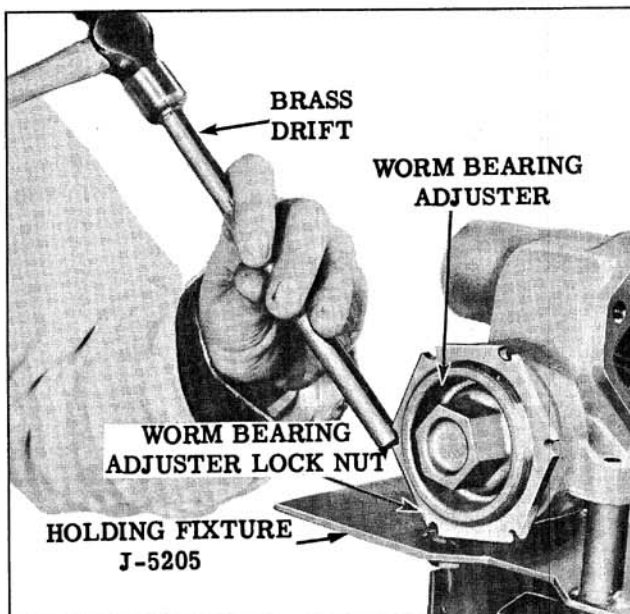

Fig. 8-9 Loosening Lock Nut
- The torque required should be between 4 and 7 inch pounds. If it is not, it will be necessary to loosen the worm bearing adjuster locknut with a brass drift (Fig. 8-9) and turn the worm bearing adjuster the required amount to bring the torque within limits.